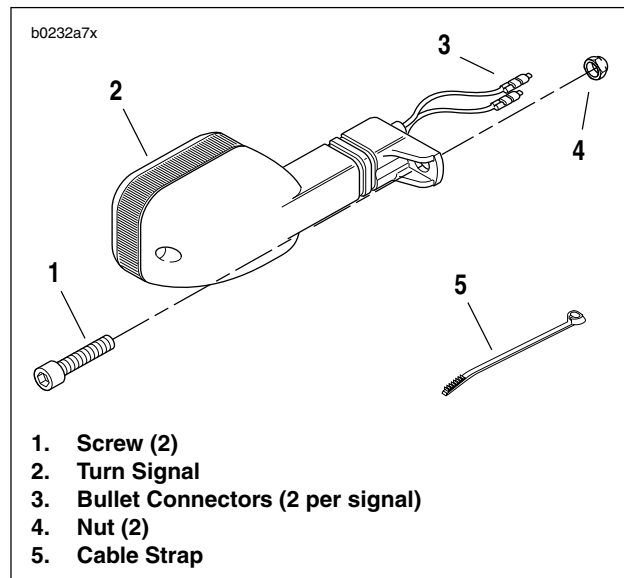

Figure 7-67. Rear Turn Signals
4. See Figure 7-67. Remove screws (1) and nuts (4).
5. Remove turn signals (2) from tail lamp bracket.
- See Figure 7-67. Insert bullet connectors (3) through rear hole in tail lamp bracket. Attach turn signals (2) using screws (1) and nuts (4). Tighten to 25-28 **in-lbs** (2.8-3.2 Nm).